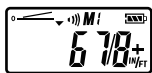

Figure 4
- Press the $^{\circ}/\text{In}/\text{Ft}$ button to shift to in./Ft unit. Figures 4 and 5 show the pitch $H=67/8$ inch ($H=L*\tan \alpha$, $L=1$ foot, $\alpha = 30.0^{\circ}$).